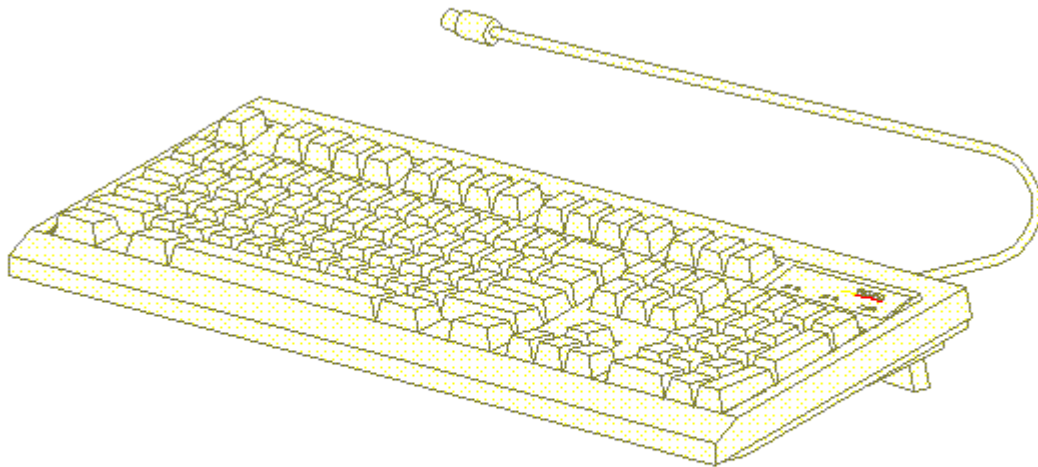

Figure 3-7. Compaq Spacesaver Keyboard
32. Keyboard, Spacesaver (US)	160648-201	A
* Not shown in Figure 3-7.